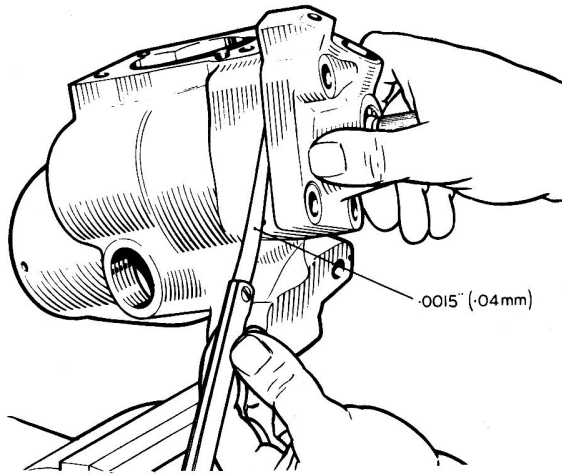

Fig.11.51. Checking the gap between the valve and gear housings
- 8 Now check the input shaft for end float. Add shims between the valve housing and the gear housing to provide a 0.0015" (0.04 mm) gap, this should be measured whilst applying reasonable hand pressure to the valve housing (Fig.11.51).